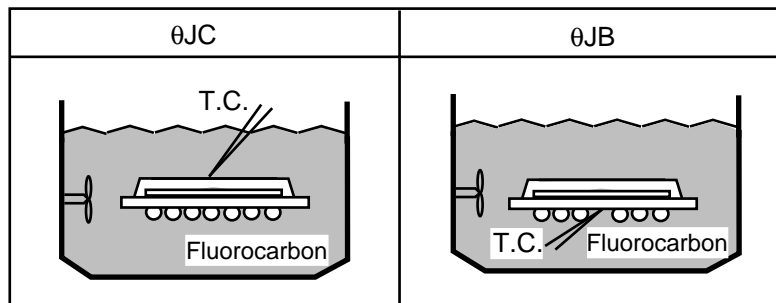

Fig.1 Definition of measurement
5.  $\theta_{JC}$  is measured at the center of mold surface in fluorocarbon.(See Fig1.)
6.  $\theta_{JB}$  is measured on the center ball pad after removing the ball in fluorocarbon. (See Fig1.)